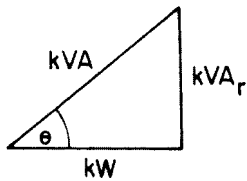

Fig. 4.48
This is called the *power triangle* but as the inductive part of the circuit consumes no power, it is called the *wattless component of power (VAR)*. The resistive part is called the *wattful component or true power* and the combination of the two is known as the *apparent power (VA)*. The power triangle is usually shown in terms of kVA, kW and kVA (Fig. 4.48).